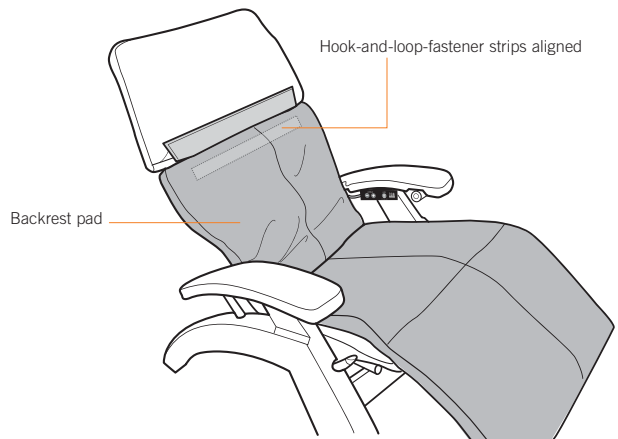

Fig.24
5. Pull up on the backrest pad until the hook-and-loop fastener strip on the back of the pad aligns with the hook-and-loop fastener strip on the chair canvas, then press the two strips firmly together (Fig.24).